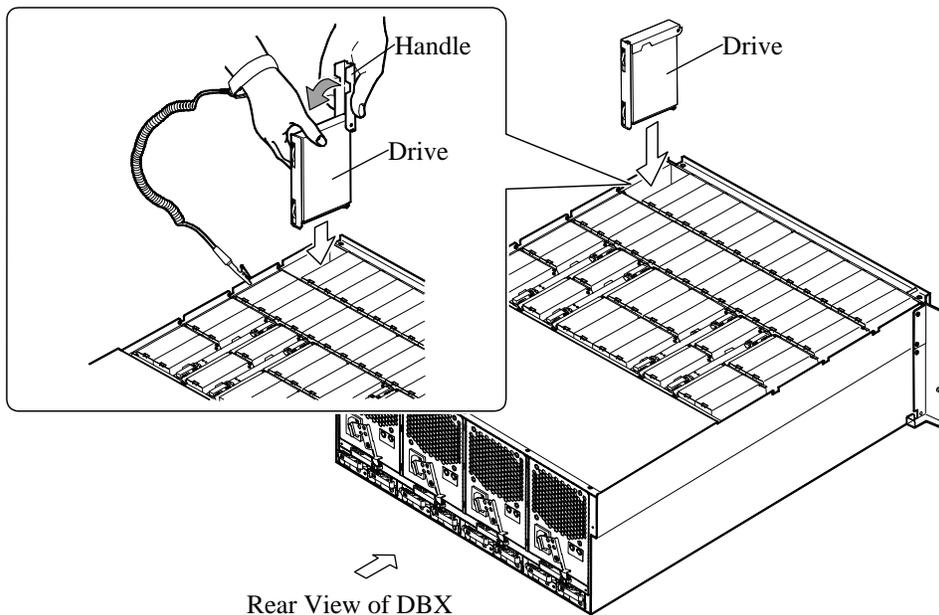

Fig. 3.42.1-21 Installation of Drive (for DBX)
- a. Open the lever of the cable holder toward you. Insert the cable holder until its lever is slightly closed. (See Fig. 3.42.1-10.)